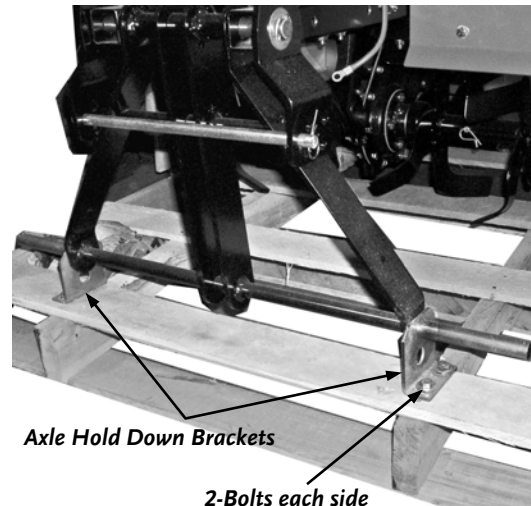

Figure 7
7. Using a 1/2" Wrench, remove the four (4) Bolts from the Axle Hold-Down Brackets at the rear of the shipping pallet (**Figure 7** on page 10) and remove the Bracket from each Axle.